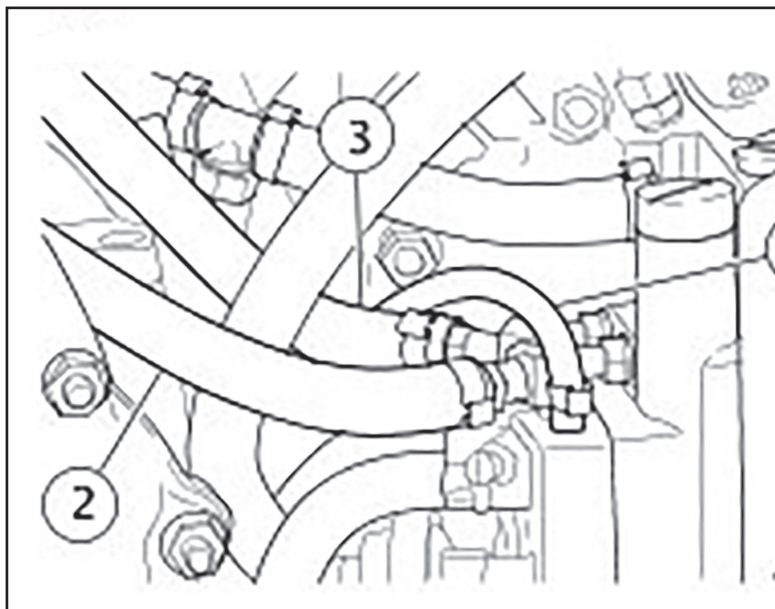

Figure 5. Pump Cover Oil Pressure Switch Mounting Hole
Braze shut the tube on the oil pump. (Item 1 in Figure 5 is connected to this tube.)
1. Braze shut the tube on the oil pump. (Item 1 in Figure 5 is connected to this tube.)